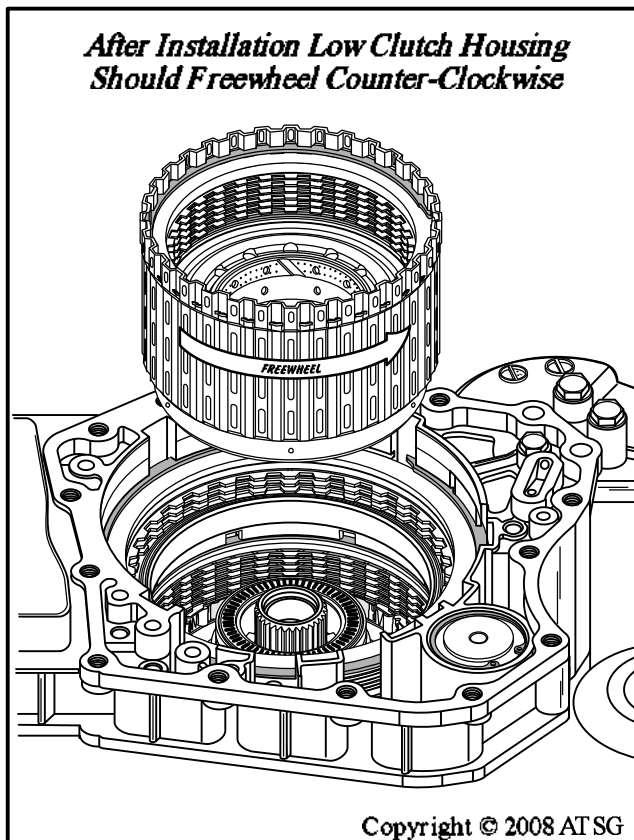

Figure 198
22. After installation, check the rotation of the low clutch housing, as shown in Figure 198.
**Note: Low clutch housing should freewheel counter-clockwise and lock clockwise, as shown in Figure 198.**